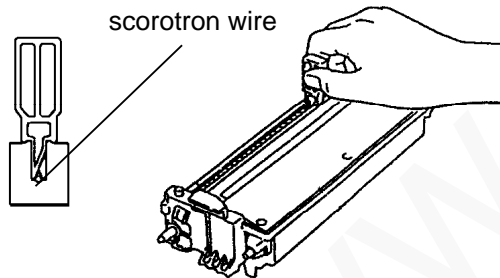

Figure 13. Charge Scorotron
- c. Inspect or clean the charge scorotron using the charger cleaner (Figure 13).